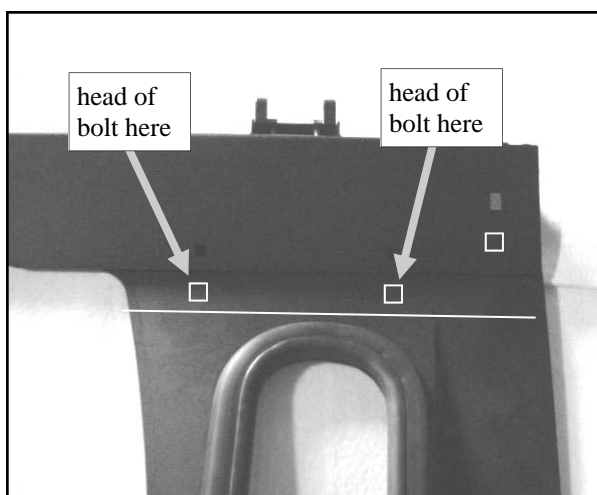

Fig. 4.1 (2-piece cowl assembly)
4.1 On a padded, or protected surface, pre-assemble the cowl and the left front leg. Per figure 4.1, Set the cowl down on the protected surface with the two 90 degree bends pointed down. Place the left leg underneath the cowl and attach as shown in figure 4.1 and 4.1a with the following hardware: two 5/16" x 1" long button head bolts, two plastic washers, four steel washers, and two locknuts. Locknuts to be on the bottom side. Leave the bolts loose.